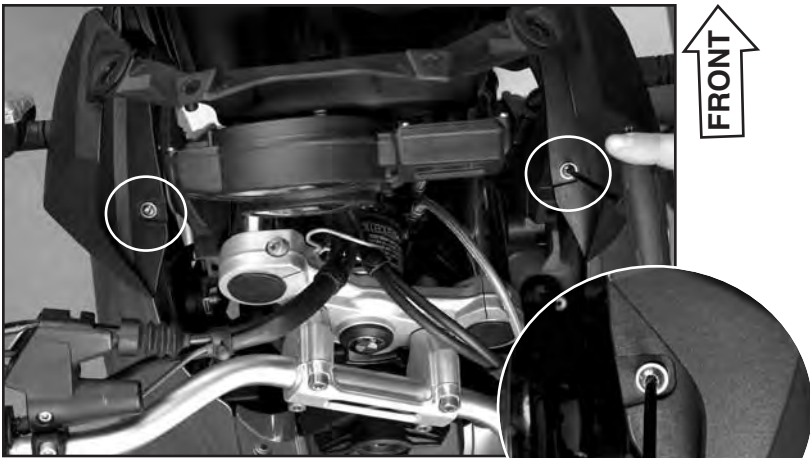

Figure 8
1. Remove the right BMW Binding Head Screw (46 637 653 066) from Cockpit Trim Panel. **Figure 8 and Diagram b (T25 Torx)**